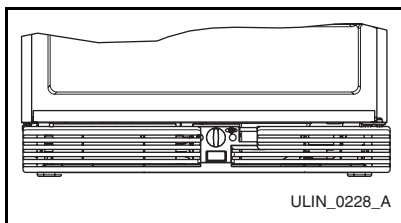

Figure 5
2. Remove the control knob (Figure 5, 1) by pulling it straight out, away from grille.
3. Remove screw from grille (Figure 5, 2) and save.
7. Insert the screw (Figure 5, 2). Do not overtighten.
8. Reinstall the control knob (Figure 5, 1).